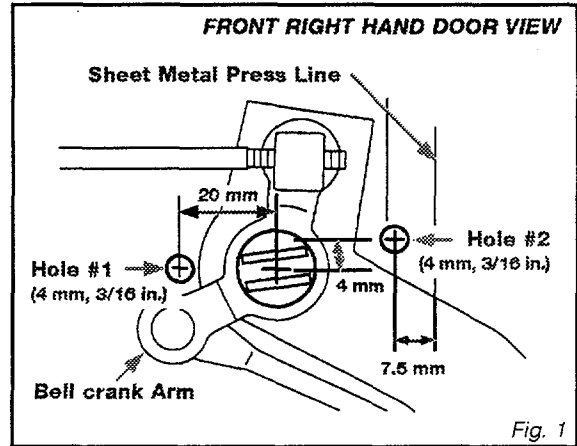

Fig. 1
2. Drill two 4 mm (3/16 in.) holes in the inner panel as shown in Figure 1.